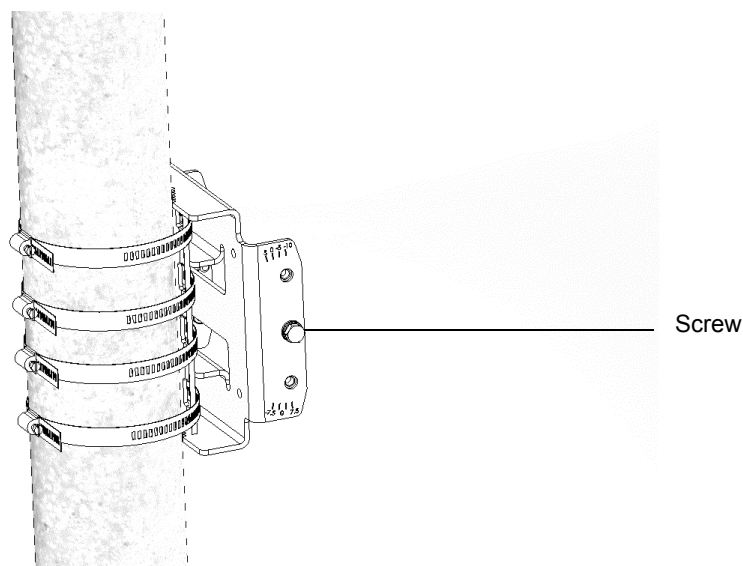

Figure 2-7: Installed Carriage - Side View
- 2 Thread the metal strips through the BTS carriage (see Figure 2-7).
- 3 Attach the carriage to the pole and fasten the metal strips (see Figure 2-7).
- 4 Thread screws through the middle-side holes of the carriage (see Figure 2-7).